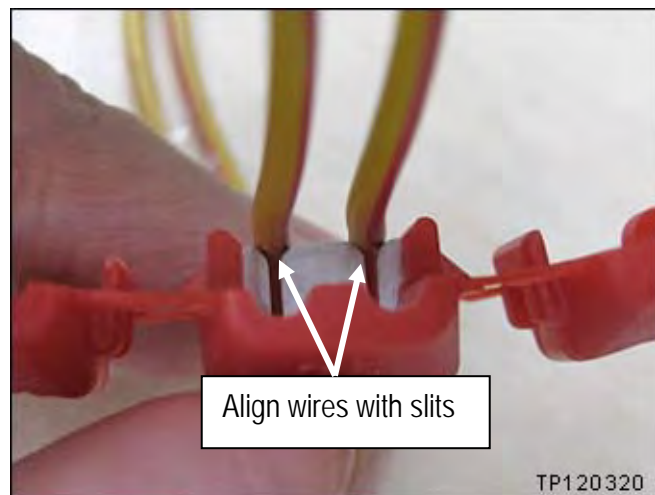

Figure CR8
- a. Align the harness wires with the slits in the shorting pin as shown in Figure CR8 and CR9.